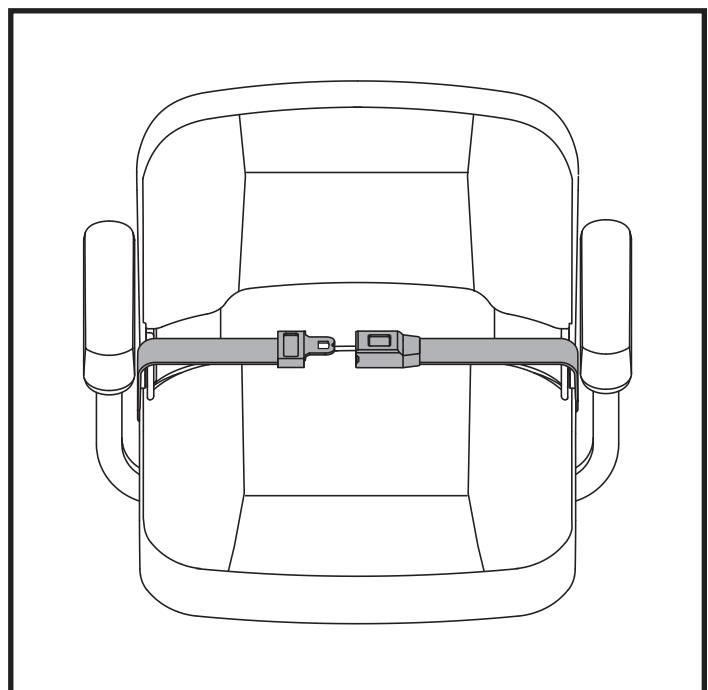

Figure 17. Positioning Belt - Metal Tab Style
1. Insert the metal tab on the right side of the belt into the plastic housing on the opposite strap until you hear a "click." See **figure 17**.